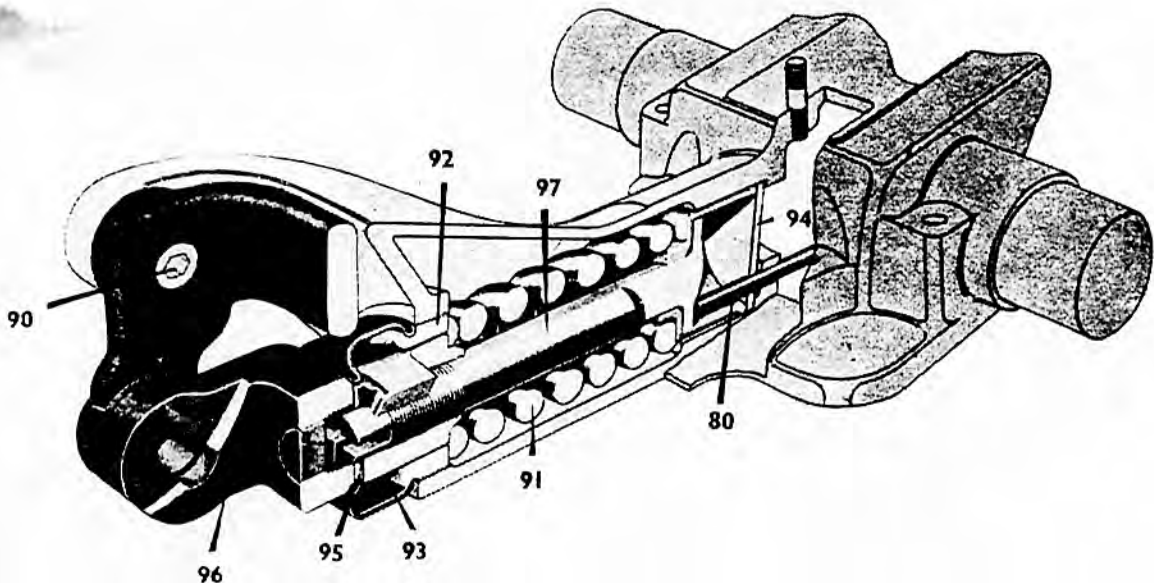

FIG. 29 SECTION THROUGH THE CONTROL SPRING
2. CONTROL SPRING SETTING (Fig. 29)